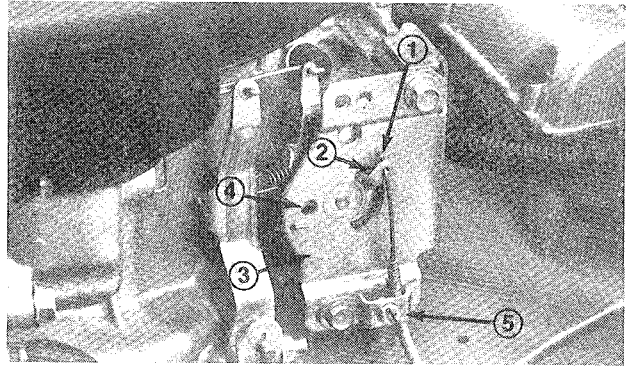

**Figure 4**
1. Align upper handle mounting holes with desired mounting holes in frame (upper or lower set of holes) and secure each side with (2) 3/8 -16 x 1" lg. flange capscrews and flange nuts (Fig. 4). Route cables and wire harness inside of frame (Fig. 4)